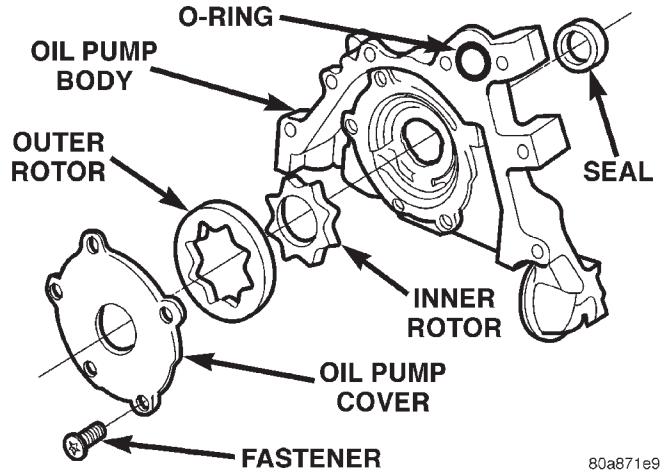

Fig. 92 Oil Pump
(1) Clean all parts thoroughly. Mating surface of the oil pump should be smooth (Fig. 92). Replace pump cover if scratched or grooved.